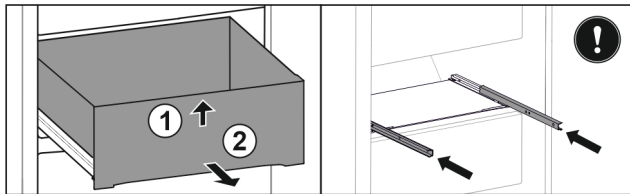

Fig. 35
- ▶ Lift up the drawer at the front Fig. 35 (1).
- ▶ Take out to the front Fig. 35 (2).